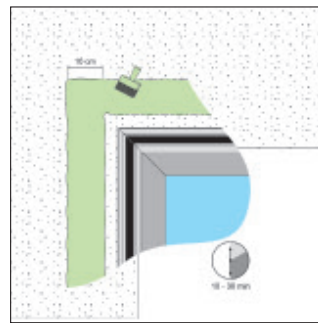

Fig 1: Primer Application
- Apply the primer onto the porous substrate by brush or roller across the whole of the area to be bonded (see Fig.1).